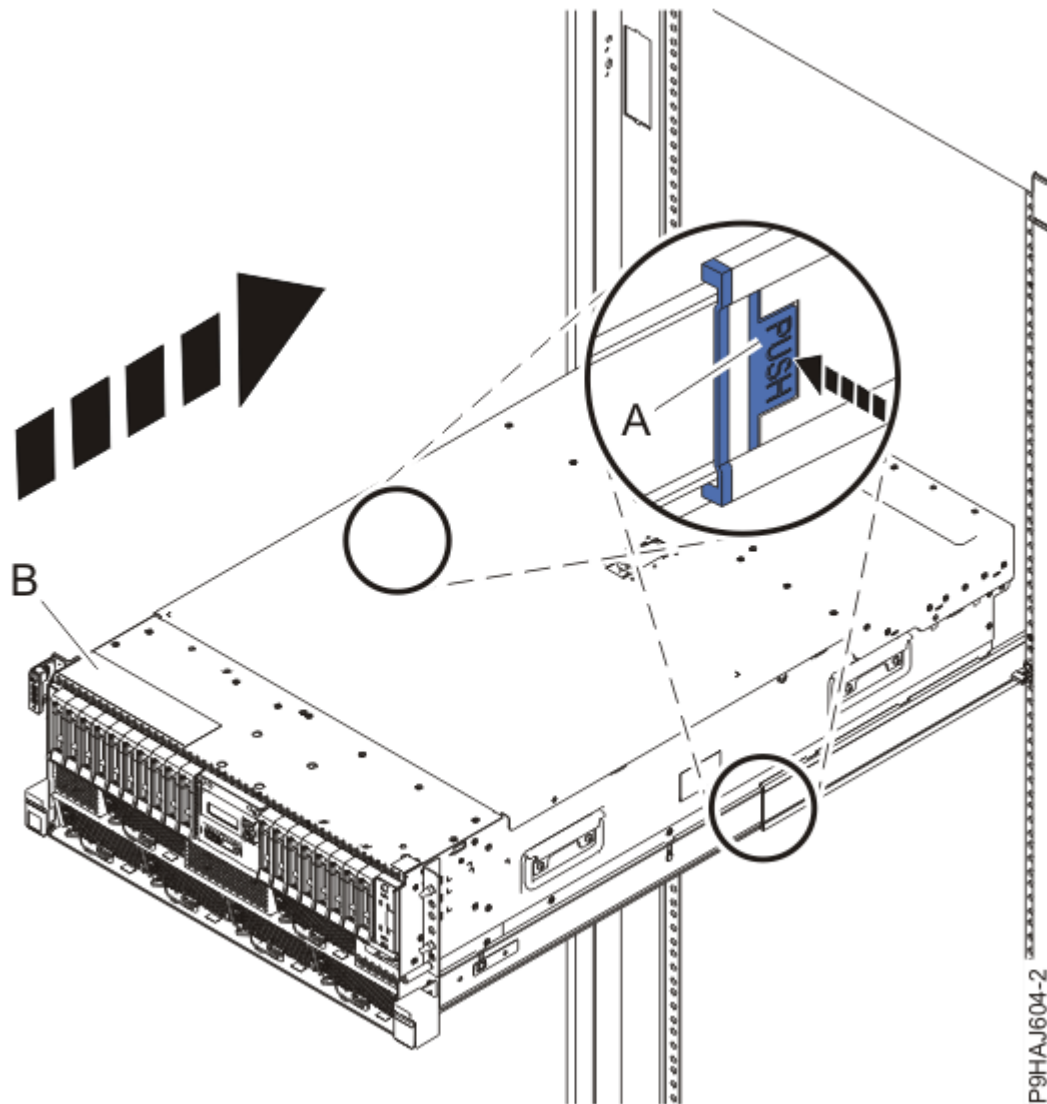

Figure 36. Placing the system into the operating position
3. For a rack-mounted system, unlock the blue rail safety latches (**A**) as shown in Figure 36 on page 45 by pushing them inward.